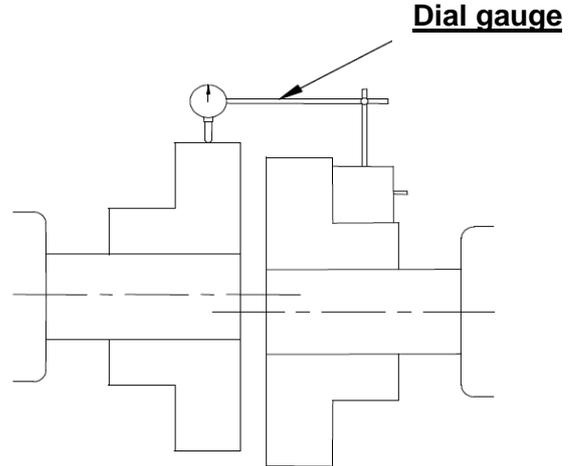

Figure 7.3: Measurement with a dial gauge
Alternatively, the radial misalignment can be measured with the help of a dial gauge. The dial gauge holder is mounted on a hub (item 1). Afterwards, place the volumetric flask on the processed outer diameter of the second hub (item 2) (see figure 7.3). With couplings REK...DQO, turn the second hub (item 2) one revolution and read off the full deflection of the dial gauge. The radial misalignment amounts to half the full deflection.